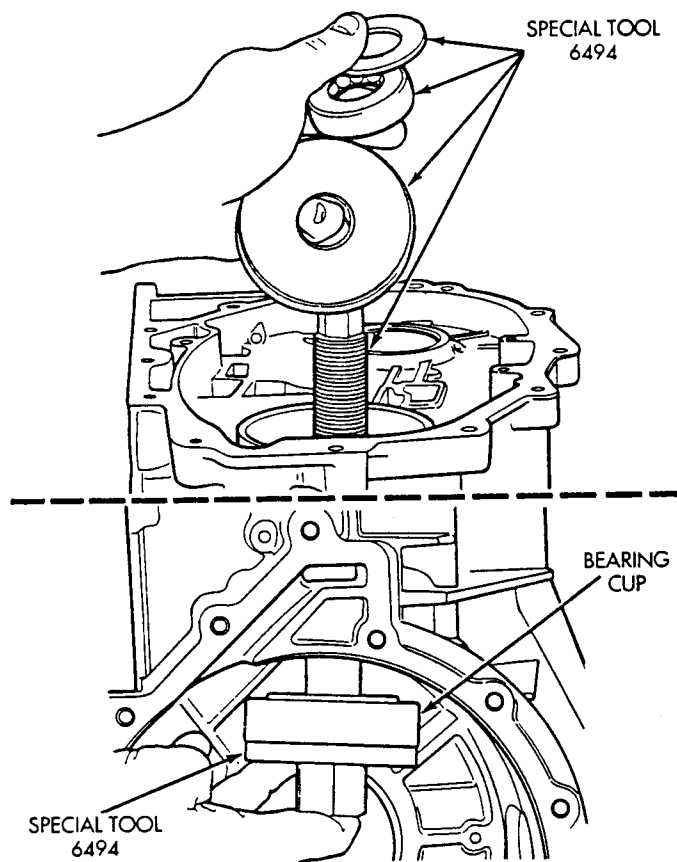

Fig. 1 Install Front Transfer Shaft Cup
(1) Install front transfer shaft bearing cup (Fig. 1). The transfer shaft bearing cup must be installed before making pinion depth measurement. Use special tool 6494 to install bearing cup. There are no shims located behind this bearing cup.